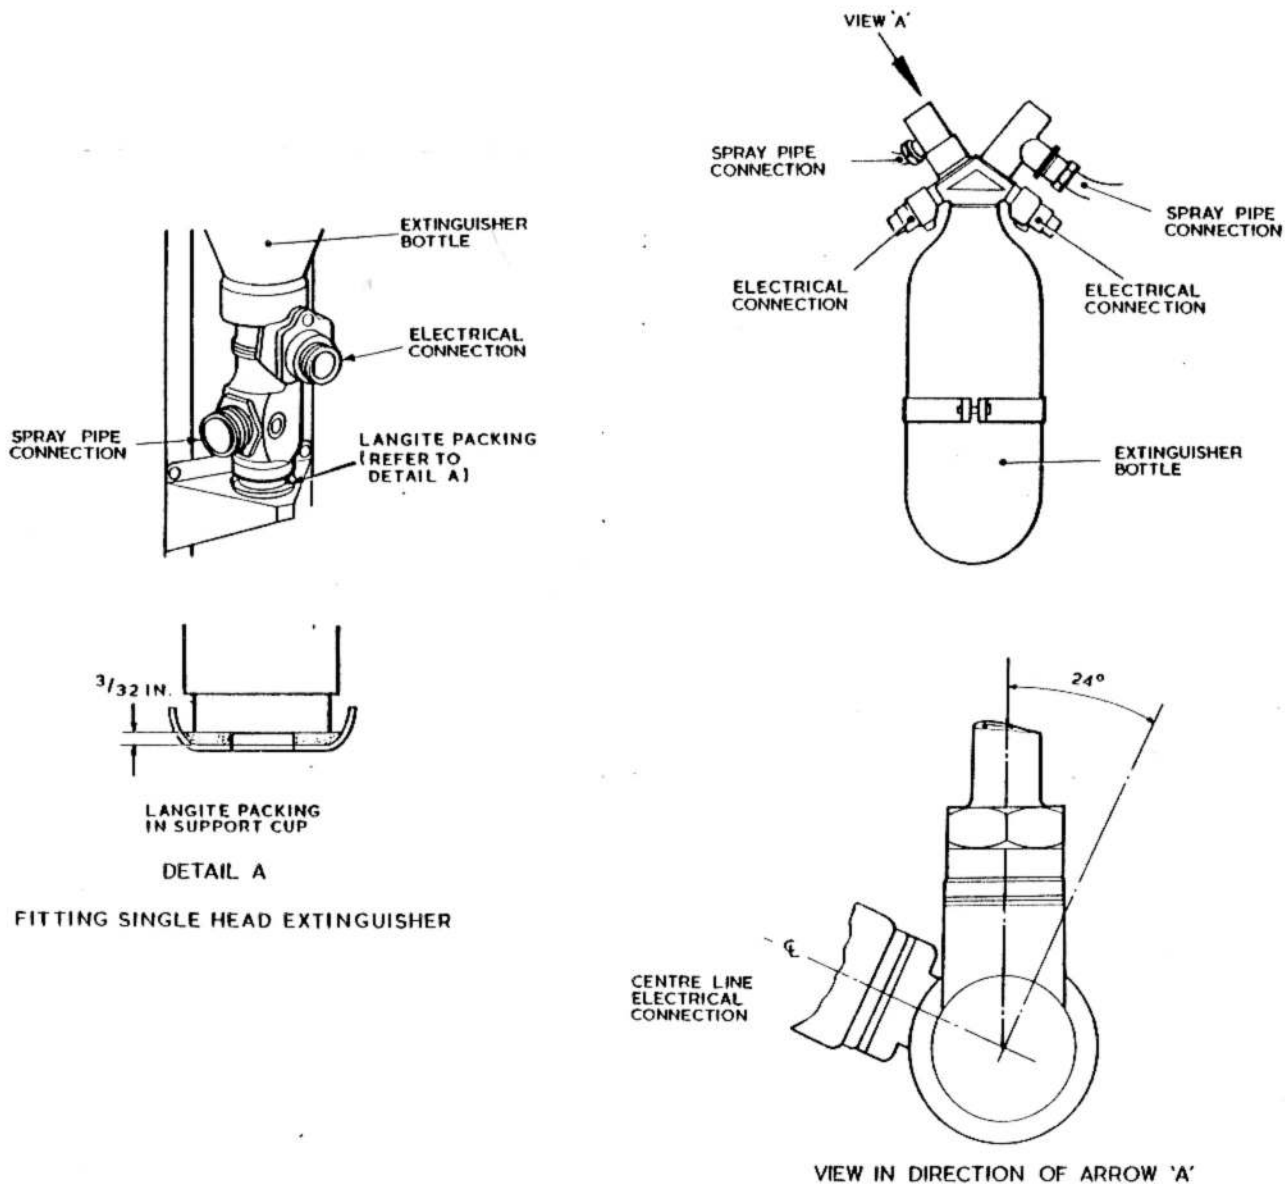

FIG. 2. FITTING SINGLE-HEAD EXTINGUISHER AND SETTING DUAL-HEAD JUNCTION BOX
(3) Release the mounting strap and remove the extinguisher from its mounting bracket.
23. Installation of an extinguisher is the reverse of the removal procedure. When assembling a dual head extinguisher into the main plane ensure that both outlets are connected to the appropriate system and that the 4 pin electrical socket is facing inboard (fig.2).
24. When fitting a Type 12A or Type 89A extinguisher, it is essential that the head of the junction box fits securely into the cup of the support disc of the attachment bracket. To ensure that the head of the junction box is correctly housed in the support cup, the thickness of the langite packing in the box of the cup must not be more than 3/32 in. (fig.2), and the extinguisher must be held firmly in position whilst the attachment straps are being fitted and tightened. The following procedure should be adopted:-